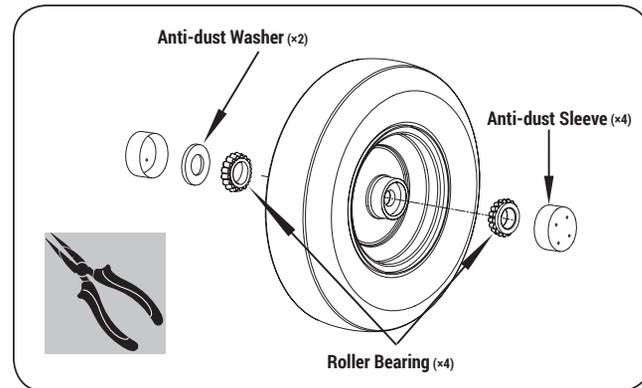

Figure 3a
1. Remove the anti-dust sleeves from the two wheels. Take the anti-dust washers and roller bearings from the wheels and set aside for later use. (See **Figure 3a.**)